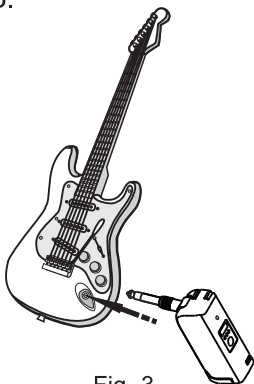

Fig. 3
(E) Plug the 6.3 Ø phone plug into any guitar, keyboard or other musical instrument output jack, Fig. 3.